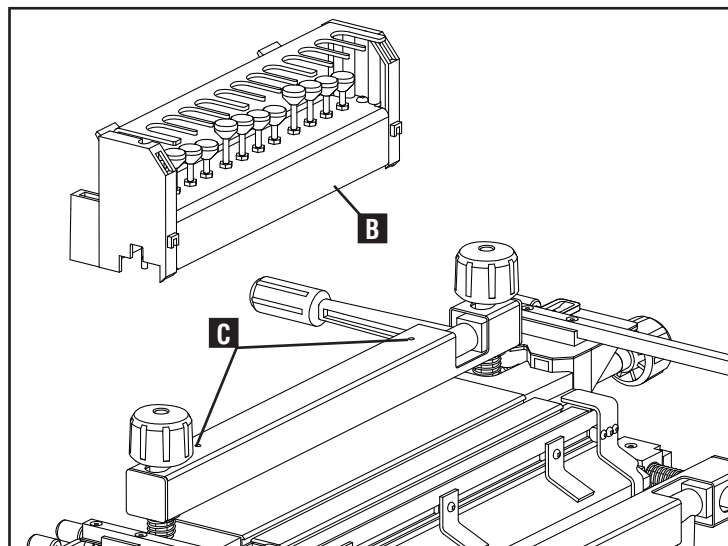

Fig. C2
Install router bit depth pod (B) Fig. C2, on the back workpiece clamping bar at holes (C) Fig. C2 using the included screws.